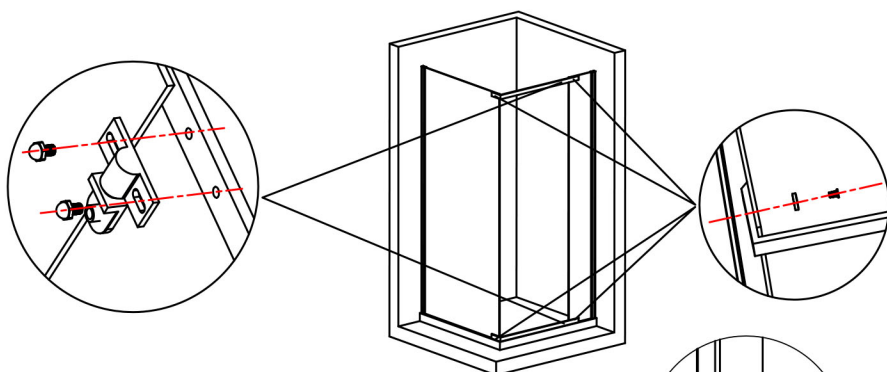

Fig.4
3. (Fig.4) Install support arm between two fixed glass panels with supplied screws.
4. (Fig.4) Fix hinge onto support arm.